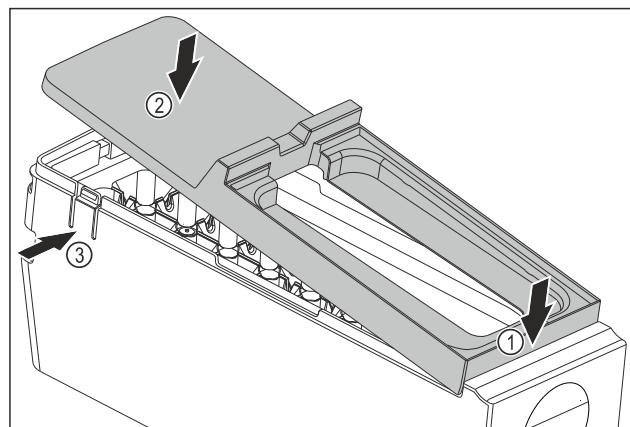

Fig. 77
- Installing the EasyTwist-Ice body cover: Place the cover on the front. Fig. 77 (1)
- Lower the cover at the rear. Fig. 77 (2)
- ▷ The cover locks into both tabs Fig. 77 (3) audibly.